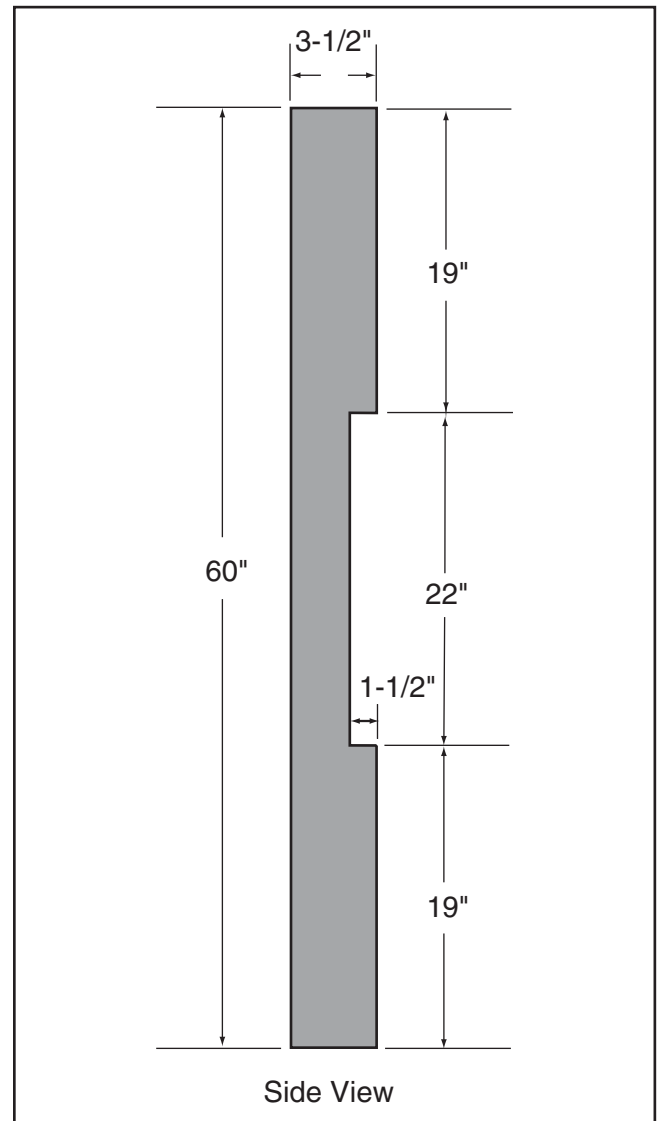

Figure 107. Dimensions of coplanarity gauge.
1. Make the "Coplanarity Gauge" shown in **Figure 107**.